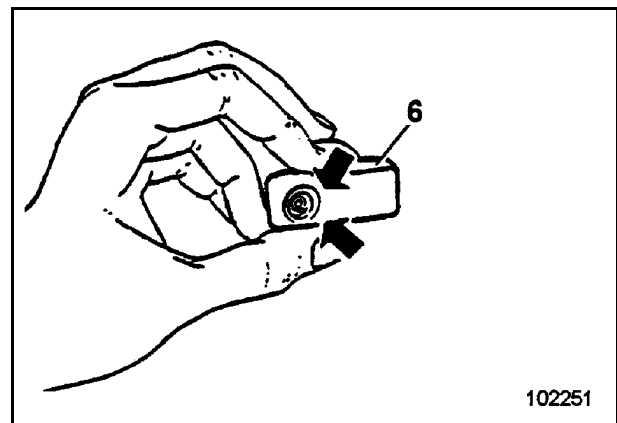

Fig. 3-43:
- ➔ Check the vacuum indicator (6, Fig. 3-41: resp. arrow Fig. 3-43:) whether
- ➔ Unscrew vacuum indicator (6) and withdraw safety filter element (7).